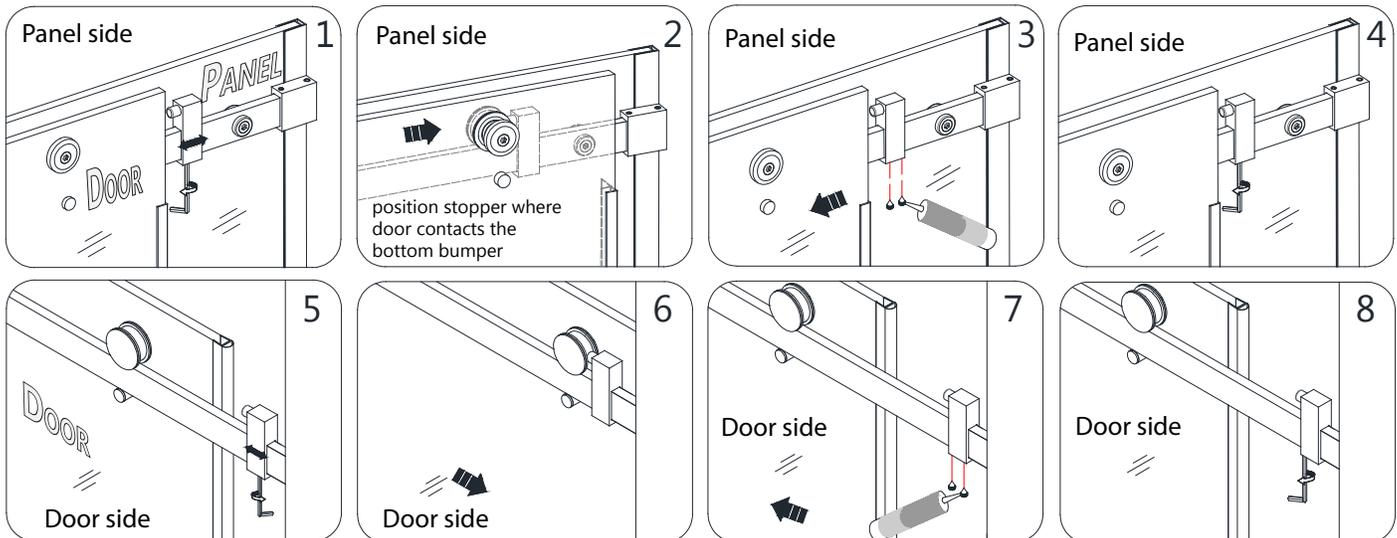

Fig 31b
4. Reinsert the set screws into the **Stopper (#05)** and fully tighten. **(Fig 31b)**